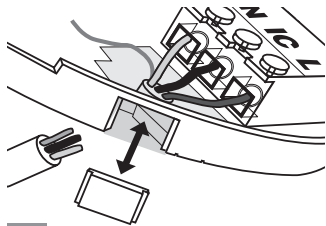

Fig.5
IC: Interconnect - see figures 5 and 6 and further information in Section 2.7.
- (b) the mounting plate has a removable section, take it out to interface directly with 25mm trunking as shown in Figure 5. If interfacing to 16mm trunking carefully cut around the marked section, leaving the top intact and replace the section. (If you are not using surface wiring, the removable section must be left in place for electrical safety reasons). There are two other positions which are also suitable for the surface wiring to enter (and exit) the Alarm, one next to the removable section and another directly opposite.